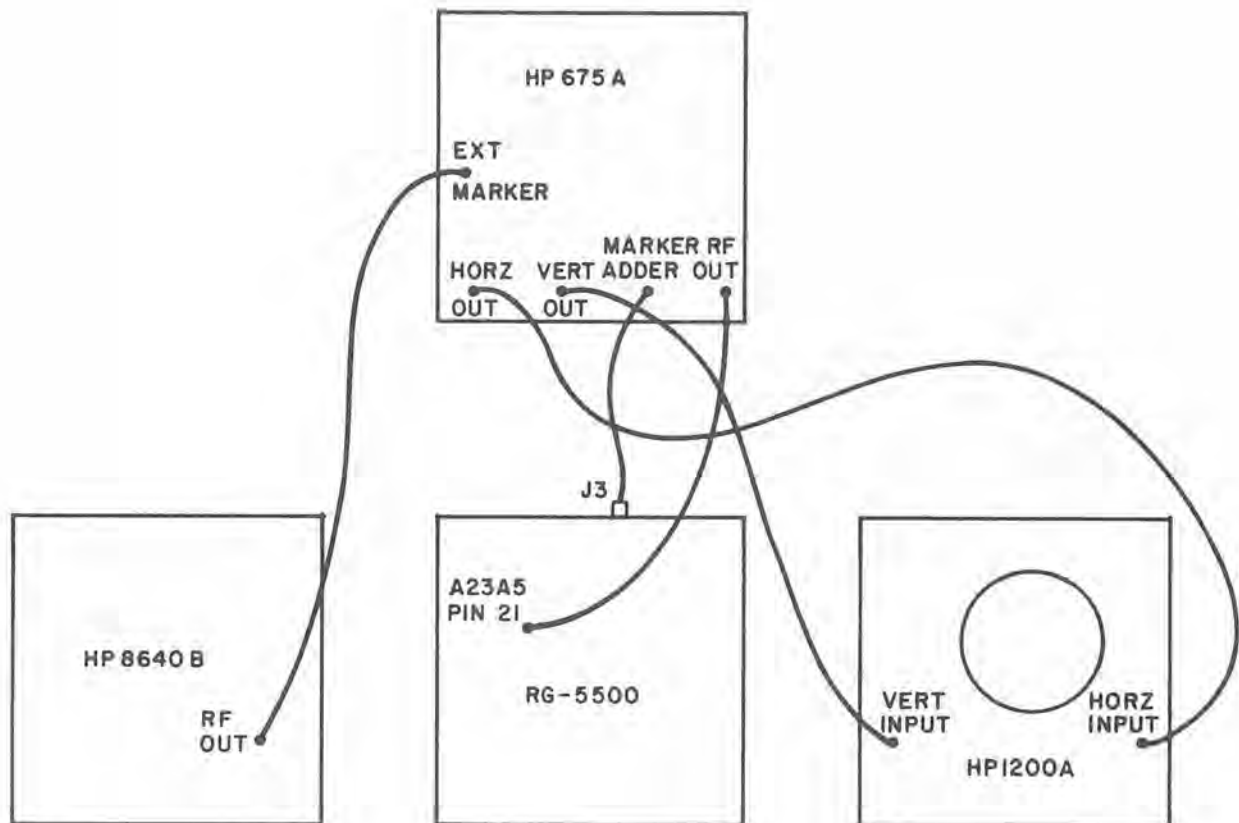

Figure 5-2. A23A5 21.4 MHz Output Amplifier Frequency Response Test Setup
- (8) Set signal generator frequency to 21.300 MHz and adjust L3 for maximum slope deflection.
- (9) Set signal generator frequency to 24.000 MHz and adjust L2 for maximum slope deflection.
- (10) Set signal generator frequency to 19.000 MHz and adjust L1 for maximum slope deflection.
- (11) Connect test equipment as shown on figure 5-2.